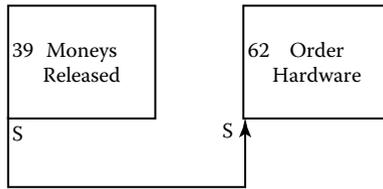

Figure 9.6 A Start-to-Start (S-S) relationship.
2. Start-to-Start (S-S; Figure 9.6). This relationship is valuable to “lock” the start of one activity to the start of another. In Figure 9.6, you cannot start “Order Hardware” until you start “Moneys Released.”